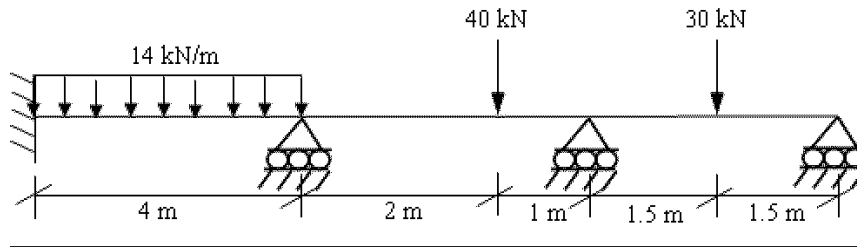

Figure 7
- Q. 5** Analyse the beam as shown in figure 7 using Moment Distribution method and hence draw SFD and BMD. **L 4** **12**